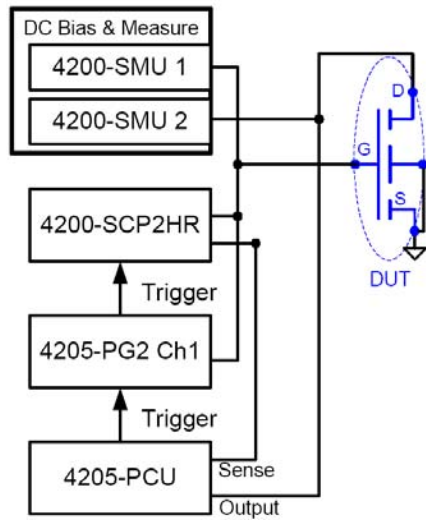
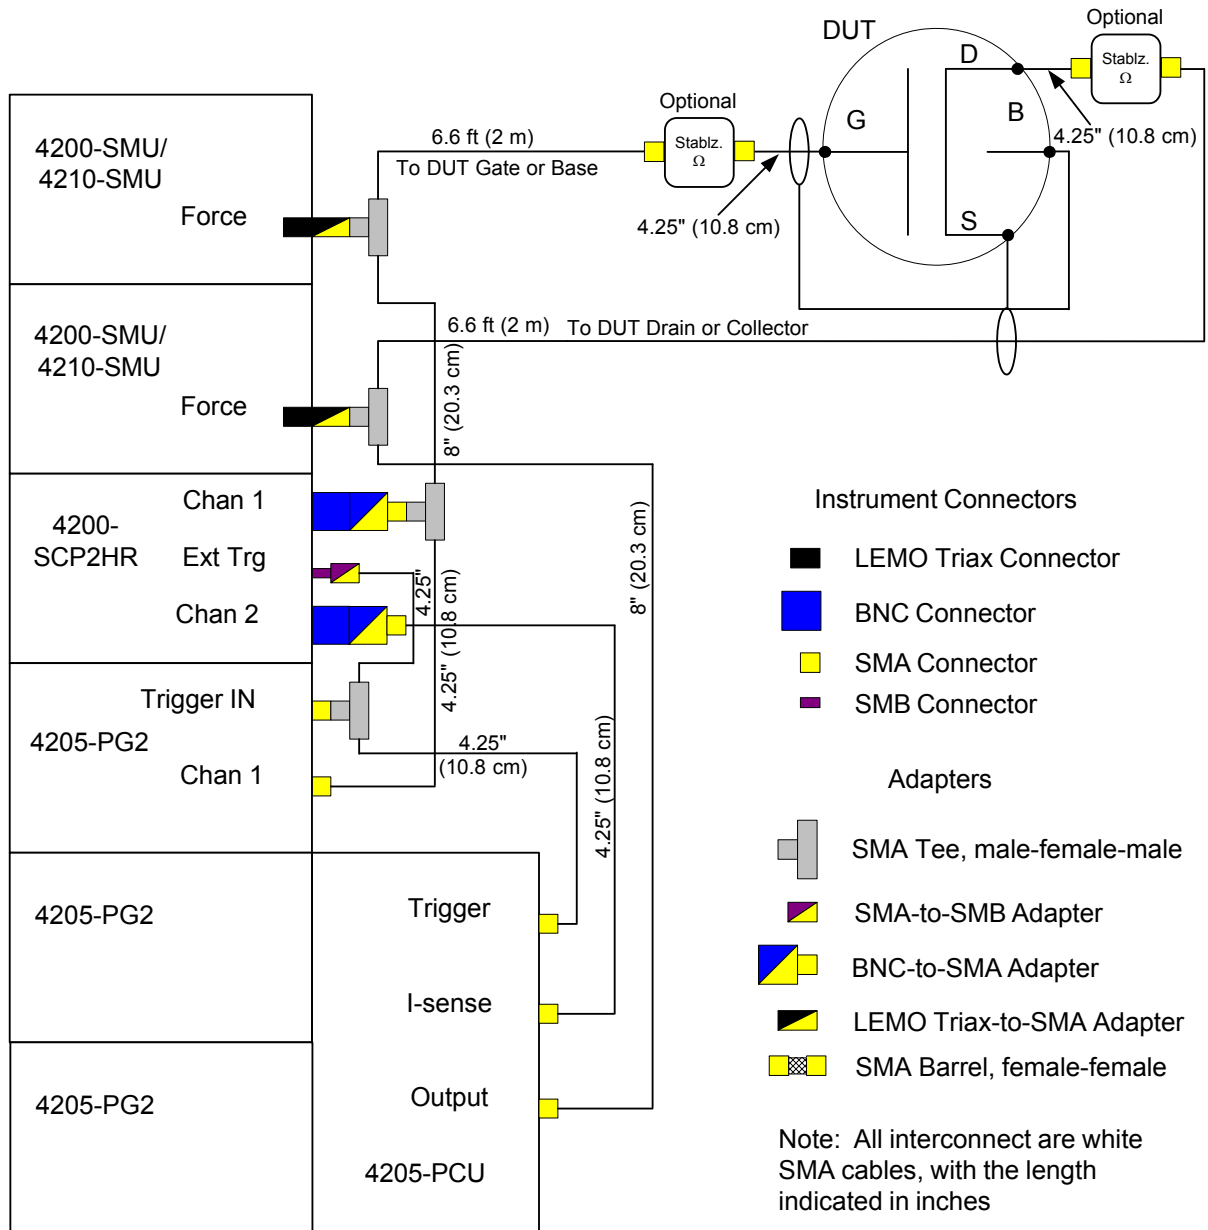
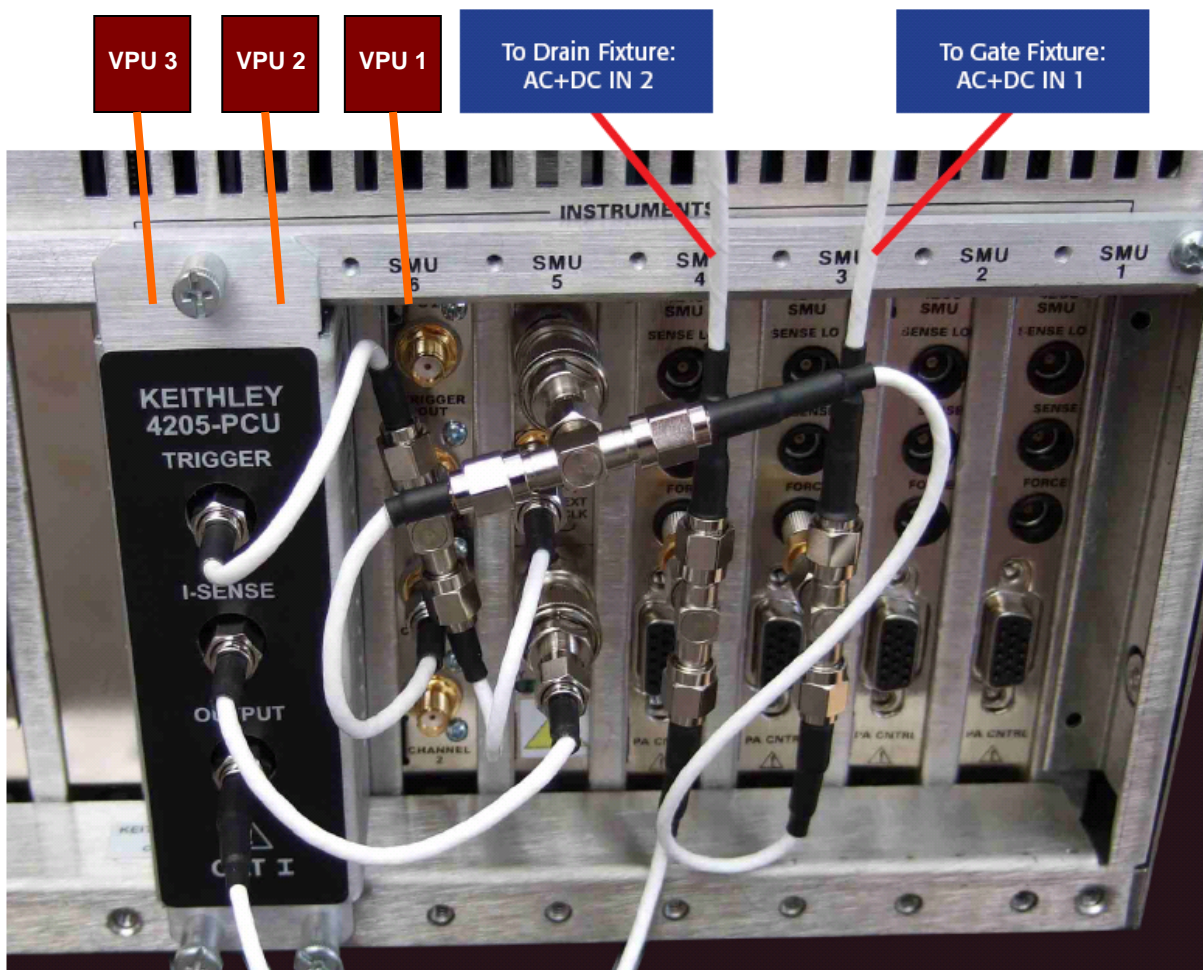

Figure 5. Block diagram of 4200-PIV-Q
Figure 6. Connection Diagram for 4200-PIV-Q
Figure 7. Photograph of PIV-Q connections
Whether using G-S-G or DC interconnects, the cabling at the back of the 4200-SCS chassis is the same. A block diagram is shown in Figure 5 and a detailed connections diagram in Figure 6. When using DC layout DUTs, the addition of one type of adapter, shown in Figure 4a-c and Table 1, is required.
NOTE Refer to Figure 6 (connection diagram) and Figure 7 (instrument connections photo) for the following procedure. Use the supplied torque wrench to tighten each connection as it is assembled. Whenever possible, torque adapter and cable assemblies before attaching to instruments, to reduce any non-axial stress on the bulkhead connectors on the scope or pulse cards.
5. Connect SMA Tee from above to the Trigger IN of the 4205-PG2 in the lowest numbered slot. The Tee should be oriented nearly vertically, with the SMB adapter cable pointing down, as shown in Figure 5. Torque using wrench.